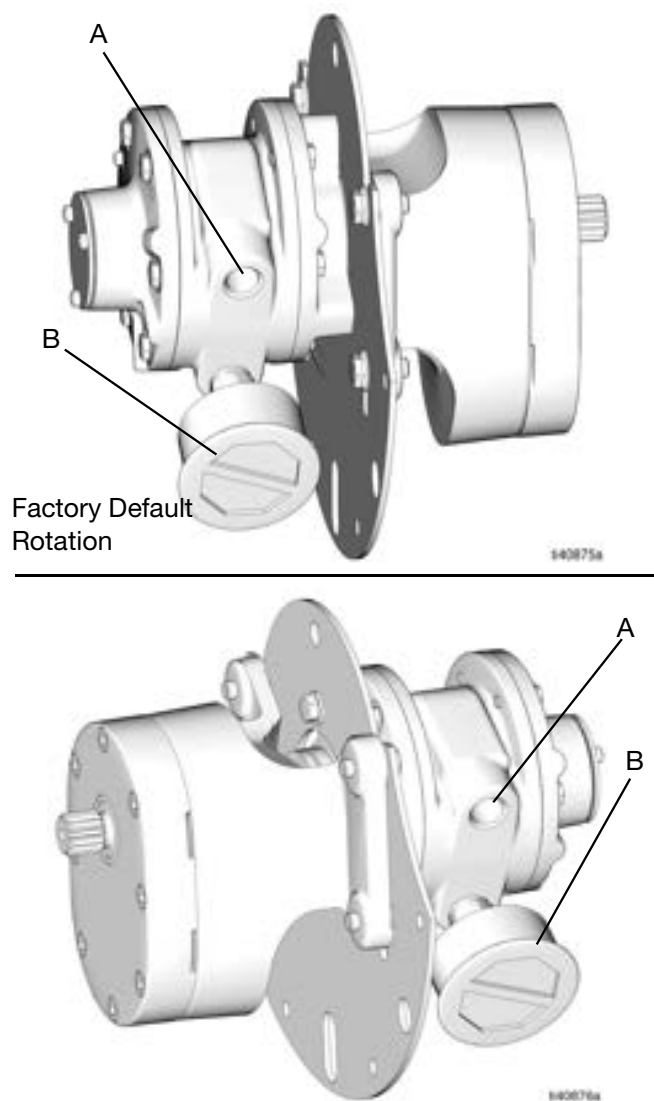

FIG. 12
NOTE: When the reel is powered the spool should wind in the direction that allows the hose to wind up onto the spool. The factory default reel configuration is counter-clockwise rotation of the motor when viewed from the motor side of the spool (end opposite the motor shaft). See FIG. 12.
- Pneumatic Motors - Reverse input and muffler parts on pneumatic motor (FIG. 12, page 24).